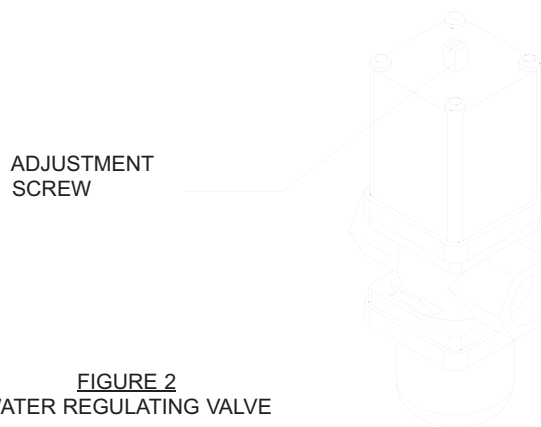

FIGURE 2
- Water cooled condensers utilize a water regulating valve (Note Figure 2). The water regulating valve comes pre-adjusted from the factory at 260 psig discharge pressure. To compensate for water temperature variation, it may be necessary to adjust the water regulating valve to maintain a 260 psig discharge pressure. Adjustment can be done by rotating the adjusting screw counterclockwise for an increase in discharge pressure. For conditions where low water temperature and/or high water pressure are expected it is advisable to install a water pressure regulator ahead of the condenser.